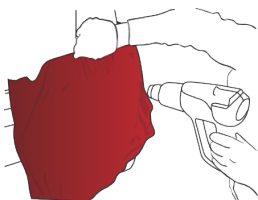

Figure 16
- › After this operation, heat to a temperature ranging from 40 °C to 50 °C (from 104 °F to 122 °F) (FIG. 16) and work the memory effect of the film.